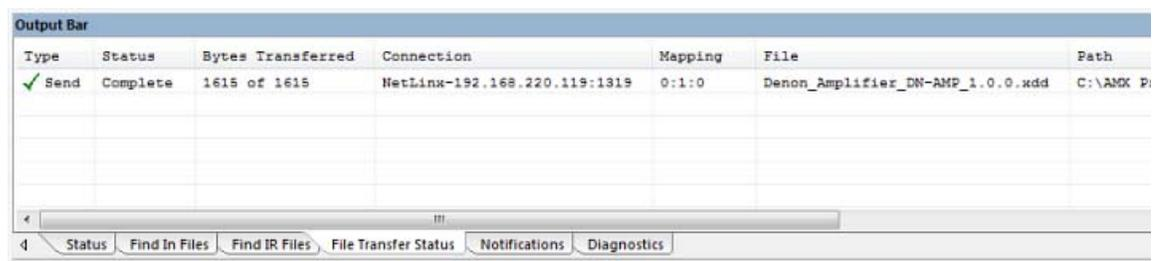

FIG. 111 Output Bar (File Transfer Status tab) - XDD File Transfer complete
7. The progress and final status of the file transfer is indicated in the *Output* bar (FIG. 111):